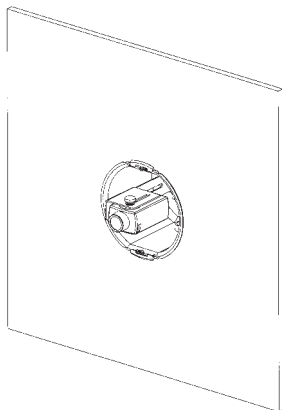

Figure 4
3. Install box into pre-cut hole with the bottom flange pressing against the ceiling. Position the round section of the box in the direction that the camera will be aimed. See **Figure 4**.